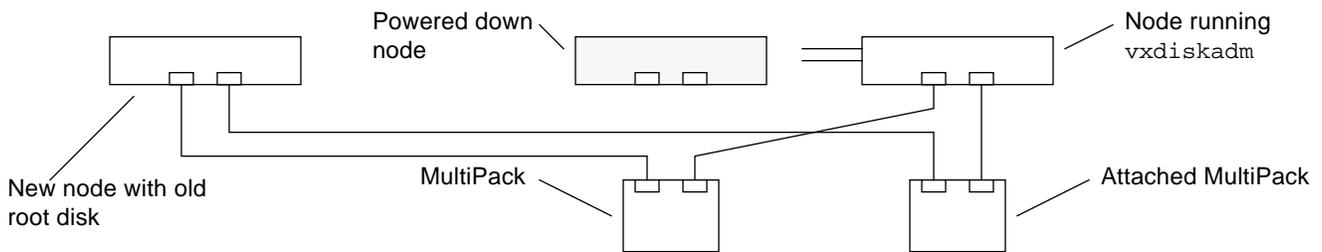

Figure 7-7 Second MultiPack Attached
17. Use the running node to attach the MultiPack (Figure 7-7).